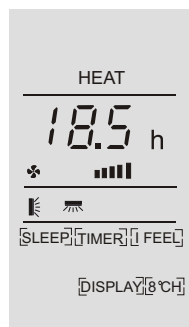

Figure2,Timer-off when switch on
4. A sample for the Timer-on as Figure1, Timer-off as Figure2